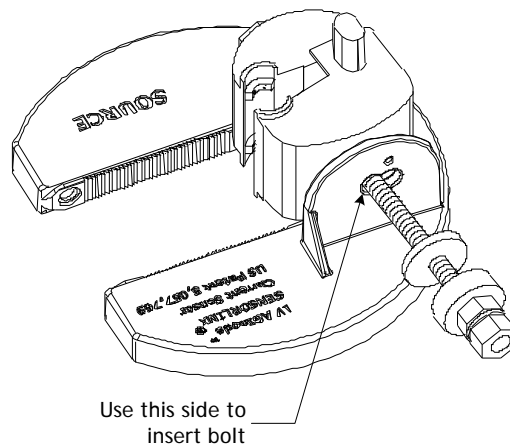

Figure 5.
4. Insert the connector bolt through the sensor mounting flange and the inner jaw. To properly align the voltage connector body with the LV AGInode voltage cable, position the bolt in the side of the hole as shown in Figure 5.